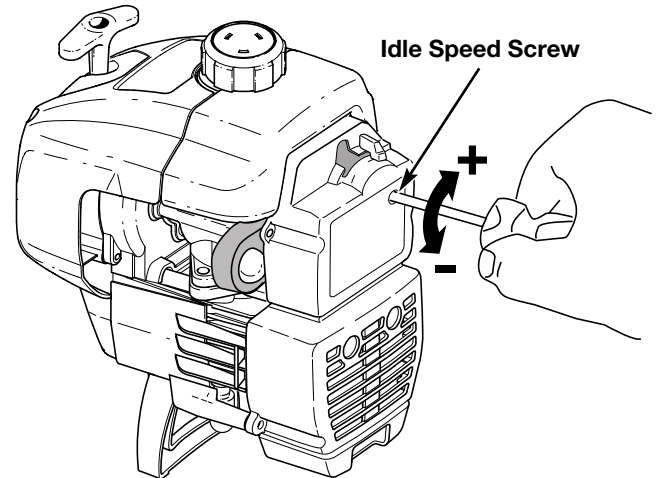

Fig. 36
The idle speed of the engine is adjustable through the Air filter/Muffler cover (Fig. 36).
2. Release the throttle trigger and let the engine idle. If the engine stops, insert a small phillips or flat blade screwdriver into the hole in the air filter/muffler cover (Fig. 36). Turn the idle speed screw in, **clockwise**, 1/8 of a turn at a time (as needed) until the engine idles smoothly.